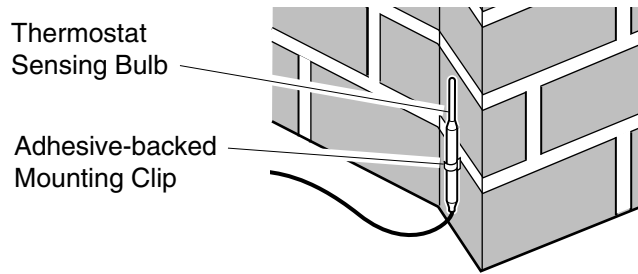

Figure 31 - Locating Thermostat Sensing Bulb on Masonry Fireplace
4. The thermostat sensing bulb may be located to the lower right front side of fireplace. Determine location of sensing bulb, but do not mount sensing bulb until step 5. If you have a masonry fireplace, see Figure 31 for location.